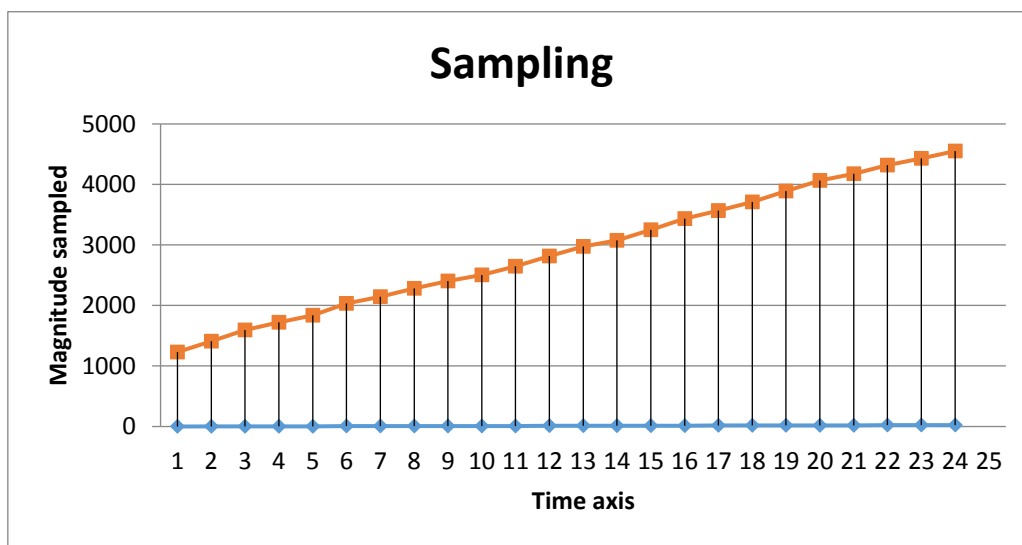

Figure 31 - Sampling
This section analyses how the RTU samples the values Figure 31 shows a curve sampled with $F_c = 1/T_c$ equal to one hour throughout the entire day. The RTU manages five sampling periods, which are:
- 1 hour → 24 daily samples (Figure 31)
The definition of Summary Data generated by the RTU is described in Figure 31 - Sampling. **The RTU manages four types of summary data for up to 10 years for 250 devices.** Regardless of the choice of the summary data during configuration, the RTU will generate all four summary values (15.3, 15.4); this way, any data change will change the entire logfile of the summary data generated up to that moment. **Changing any type of data involves regenerating all the data in the logfile of the data already generated in the RTU.** The summary data are: